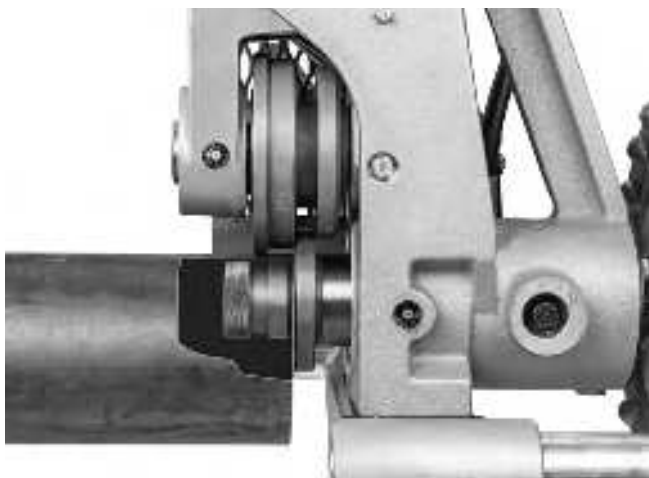

Figure 12 – Placing Pipe over Drive shaft, Flush to drive shaft flange (Stabilizer removed for clarity)
3. Appropriate pipe stands must be available to support the pipe. Adjust the height of the pipe stands so that the pipe will be level and the top inner diameter of the pipe will sit on top of the drive roll (see *Figure 12*).
4. Place the pipe on the stand(s) with the end of the pipe flush to the drive shaft flange and the inside of the pipe contacting the top of the drive shaft (*Figure 12*). Make sure the pipe is stable and secure.